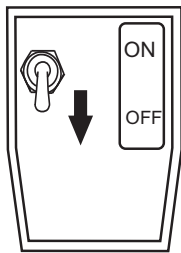

Figure 13. Power OFF/ON Switch (OFF Position)
1. Make sure the power ON/OFF switch (Figure 13) located near the bottom of the mast is in the **OFF** position.